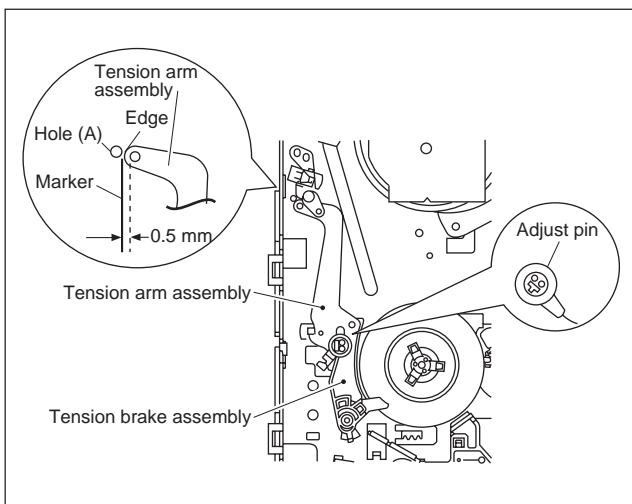

Fig.3-3-1a
- (1) Play back the back tension cassette gauge (A).
- (2) Check that the indicated value on the left side gauge is within the specified value (G).
- (3) If the indicated value is not within the specified value (G), perform the adjustment in a following procedure.
- b) Set the VCR to the play back mode and adjust by turning adjustment pin to align the tension arm assembly edge with the main deck hole (A) on the right edge marker. (See Fig. 3-3-1a.)